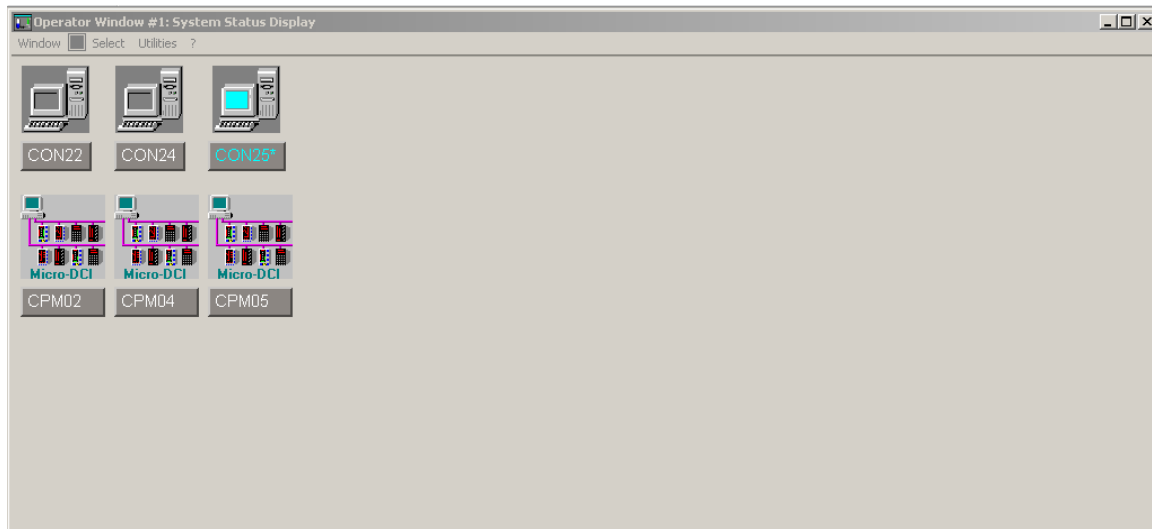

Figure 12. System Status Display
**SYSTEM STATUS DISPLAY:** depicts each node on the global data highway network as an icon (Figure 12). A node can be a process instrumentation communication server, or another Micro-